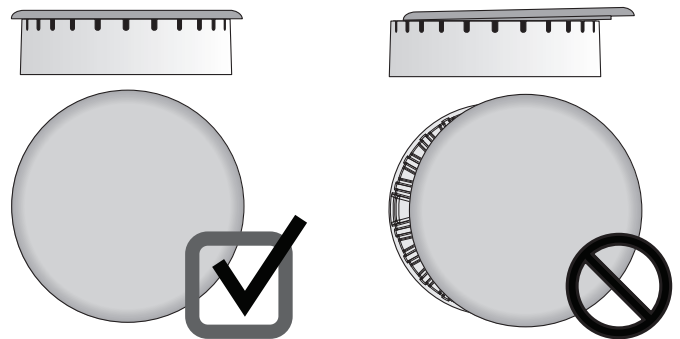

Figure 4: Proper cap placement
- On round-style burners, the burner cap lip should fit snug into the center of the burner head and rest level. Refer to Figure 4 for correct and incorrect burner cap placement.